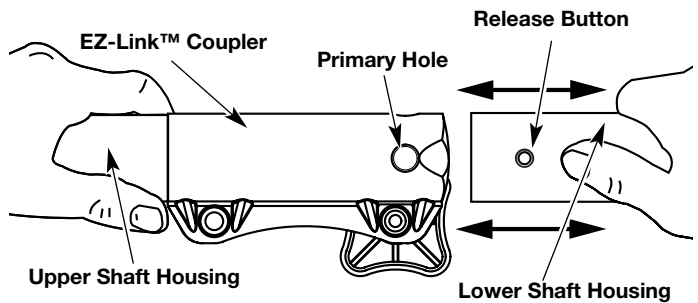

Fig. 23
3. While firmly holding the upper shaft housing, pull the cutting attachment or add-on straight out of the EZ-Link™ coupler (Fig. 23).
2. While firmly holding the add-on, push it straight into the EZ-Link™ coupler (Fig. 23).